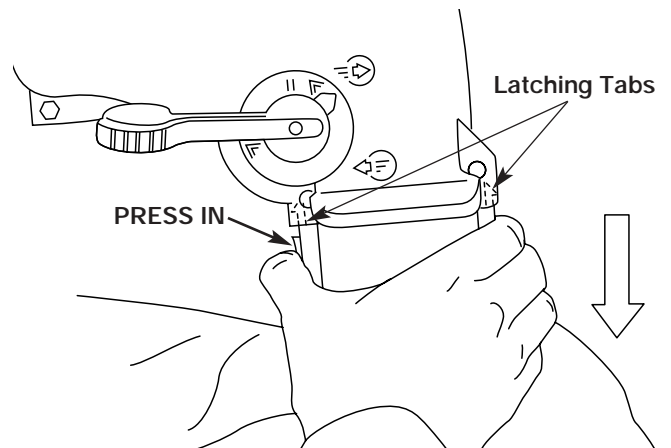

Fig. 20
1. While pressing the latching tabs on both sides of the vacuum bag tube, pull the vacuum bag off the unit (Fig. 20).